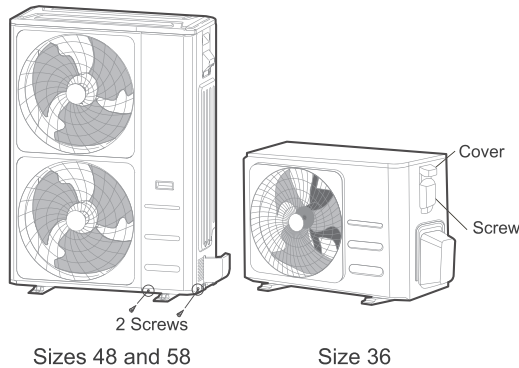

Fig. 28 —Remove Panels and Electrical Wiring Cover
2. Remove the 2 screws on the front and side panels. Take it down to perform wire connection. See Fig. 28.
Unscrew the electrical wiring cover and remove it. See Fig 28.